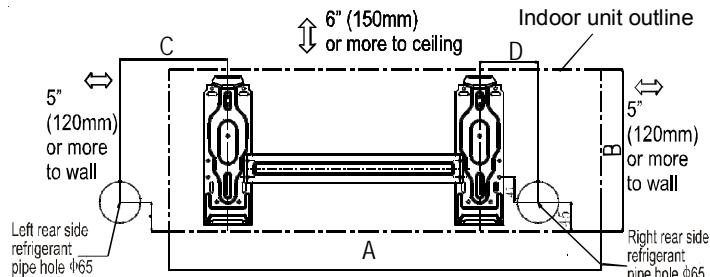

Figure 5A - 12,000 Btu/h
4. Determine the hole positions according to the diagram detailed in Figures 5A & 5B (15 SEER) and 5C (19 SEER). Drill one (1) 2.5" hole ($\phi 65\text{mm}$), slanting slightly to the outside.